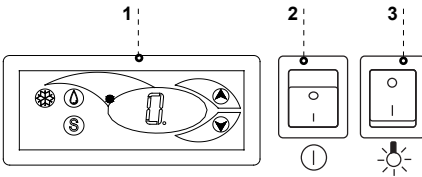

Fig.8 Control panel
- Turn the main switch on Fig. 8/2 (p.13), which will activate the thermostat, and then the aggregate of the device.
- Set the temperature on the thermostat panel Fig.8/1 (p.13) (service details on p.17 or 18)
- Turn on the lighting switch Fig. 8/3 (p.13)